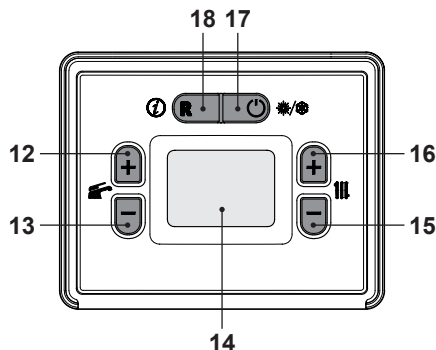

Figure 2.5
- Press the 17 button until the symbol  appears on the display Figure 2.5.
The heating delivery hot water temperature can be adjusted using the 15 (decrease) and 16 (increase) buttons (Figure 2.5) from a minimum of approx. 28°C to a maximum of approx. 55°C or from a minimum of approx. 50°C to a maximum of approx. 80°C (see "Selecting the heating temperature set" on page 41). The first time one of these two buttons is pressed the "set" value is displayed; the second time it is pressed this can be changed.
If the room temperature is not comfortable, you can increase or decrease the heating system delivery temperature by $\pm 15^{\circ}\text{C}$ using the 15 (decrease) and 16 (increase) buttons (Figure 2.5).
The domestic hot water temperature can be adjusted using the 12 (increase) and 13 (decrease) buttons (Figure 2.5) from a minimum of approx. 35°C to a maximum of approx. 60°C . The first time one of these two buttons is pressed, the "set" value is displayed. The second time it is pressed, the value can be changed.